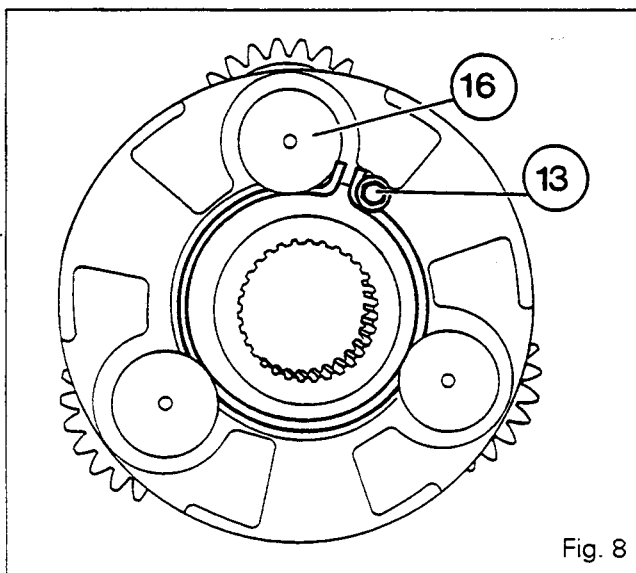

Fig. 8
16. Position one end of the circlip in contact with the pin (16) (Fig.8)
17. Clean the threads of the bolt (13). Fit the spacer (14). Coat the bolt (13) with Loctite 270 before fitting. Tighten to a torque of 34 - 50 Nm (Fig.8).
18. Check that the spur washer (11) is fitted.